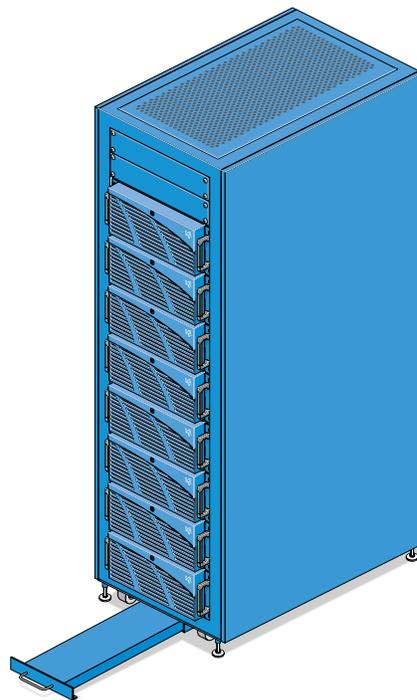

Figure 5 Pulling Out the Anti-Tip Shelf
- Pull out the rack's anti-tip shelf; refer to Figure 5.